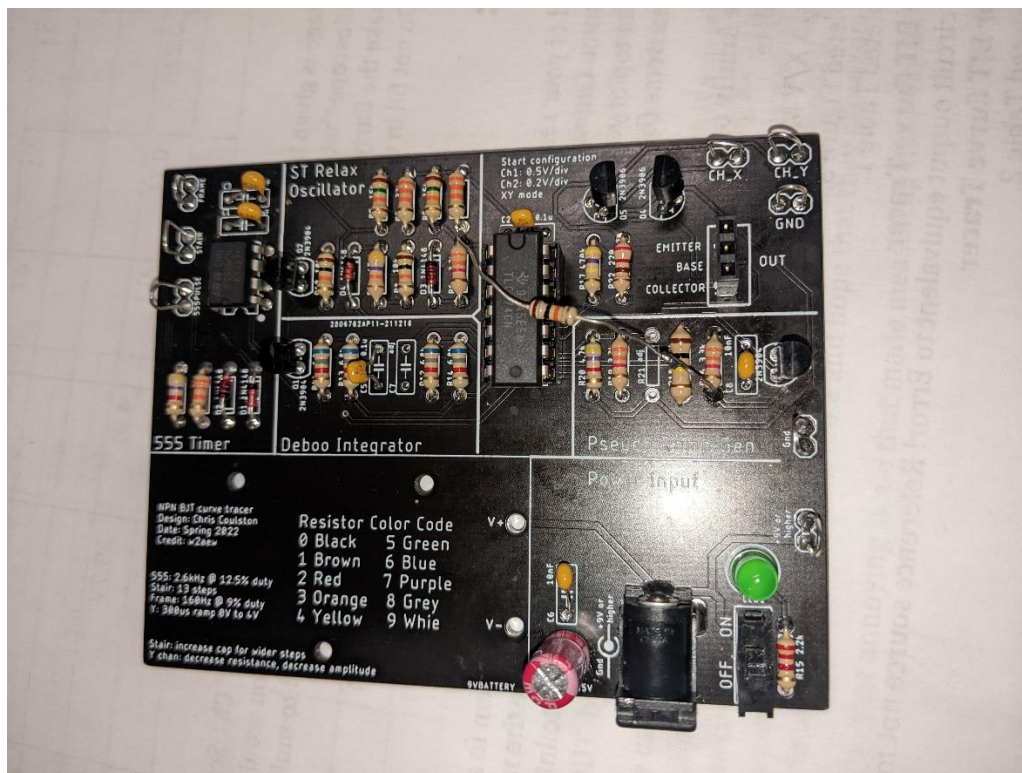

Figure 6: The completed BJT Curve Tracer board. Note the 10K resistor that's bodged into the circuit is very optional.
This week, you will be soldering in the components in the upper right corner of the BJT Curve Tracer PCB, completing the assembly as shown in Figure 6.
- You do not need to install the bodged 10K resistor shown in Figure 6. This resistor goes between the lower terminal of R16 and the upper terminal of R6. It holds the Pseudo Ramp Generator at 0V during the FRAME pulse. I added this resistor to remove an annoying glitch on the oscilloscope characteristic curve created by the Pseudo Ramp output charging to 9V.